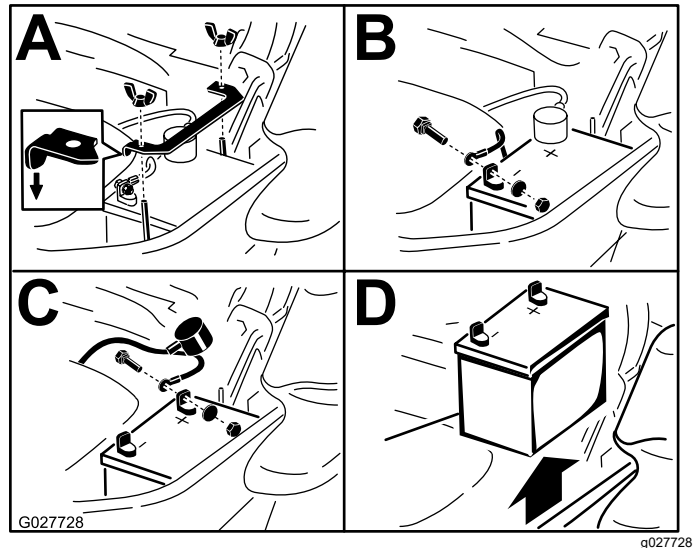

Figure 71
3. Remove the battery as shown in Figure 71.